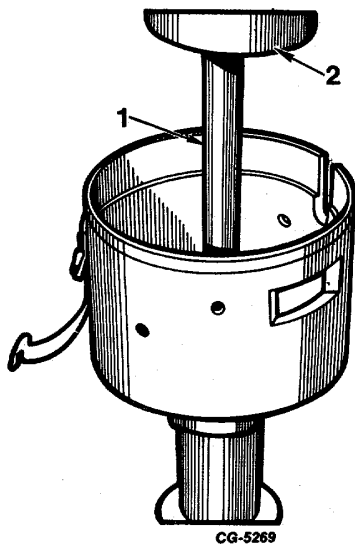

Fig. 23 Pressing Out Lower Bushing Using Knock-Out Bar
5. Place distributor housing on press bed. Insert knock-out bar through upper bushing bore and allow to rest on end of bushing remover installed in lower bushing. Pressing against knock-out bar, press lower bushing from distributor housing (Figure 23).